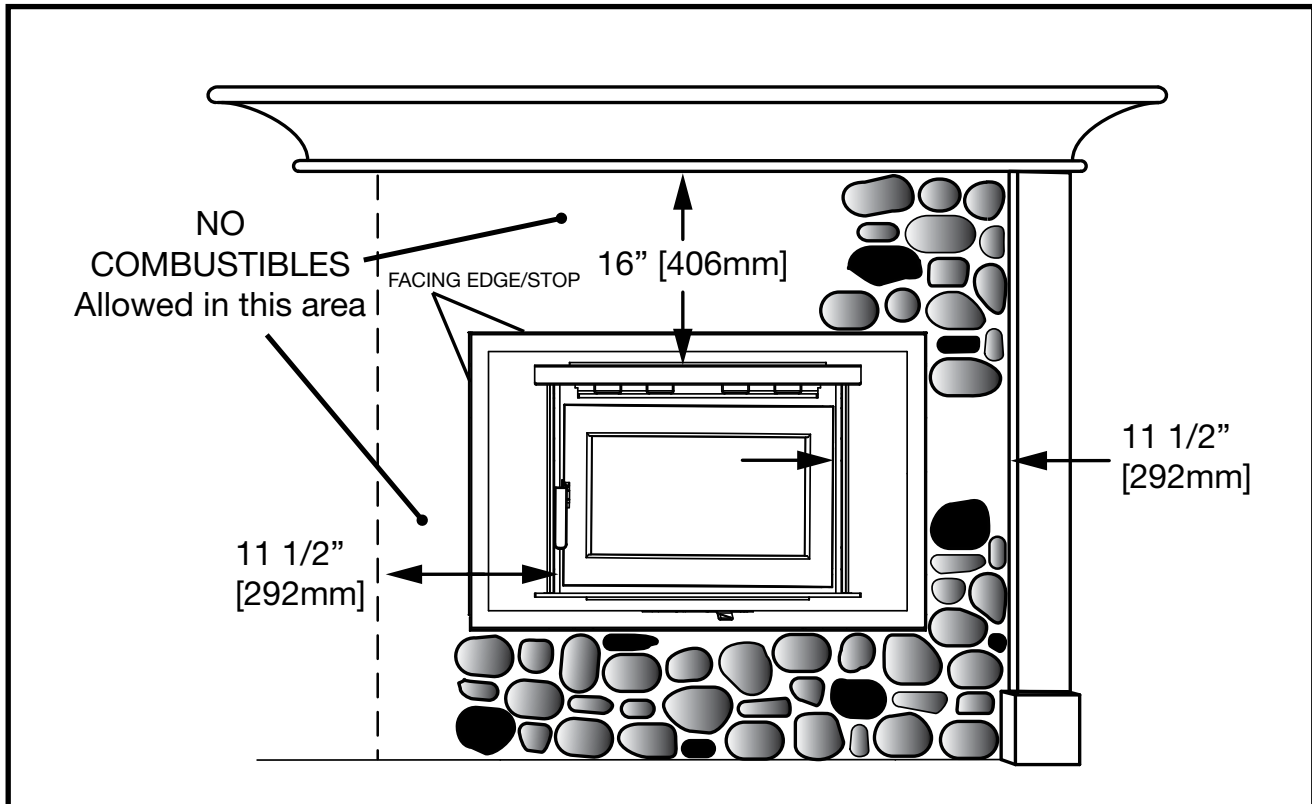

Figure 33: FP25LE Mantle and Pillar.
3. To access/view the rating label, gently pull the cable attached to the rating label plate and lift the plate free of the slot. Figure 33.